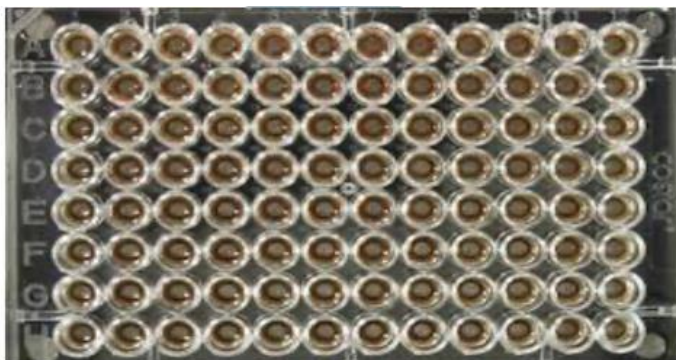

Figure 5: Extraction plate during wash step on magnetic plate.
17. After the 5 min incubation, remove supernatant and discard. Be careful not to disturb or aspirate the beads. See Figure 5.